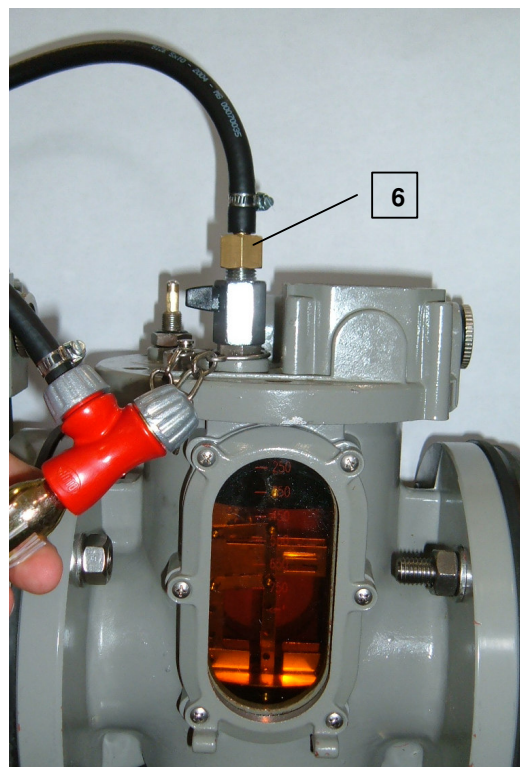

Fig.3
- d) Make sure that vent cock on relay (fig. 3) is closed (black cock handle in horizontal position) before removing the protective plug
- e) Unscrew the protective plug of the vent cock and screw joint 6 on the same (fig.3)